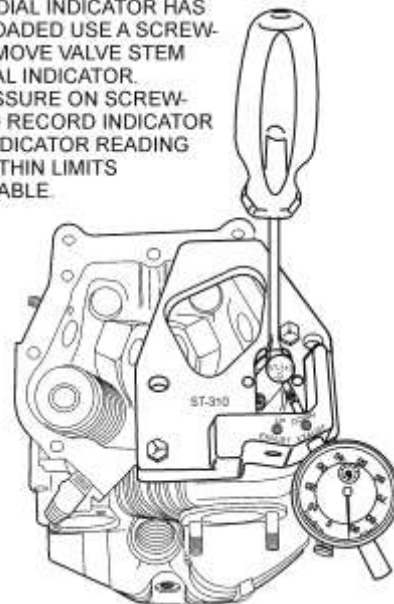

Figure 9
- (20) Insert the screwdriver between the Gage (ST-310) and valve spring on the opposite side and push the valve spring toward the dial indicator as shown in Figure 9.
- (21) Relax the screwdriver and record the reading on the dial indicator. For the valve guide to be acceptable, the measurement must be within the specified limits in the latest revision of the *Service Table of Limits - SSP-1776*.